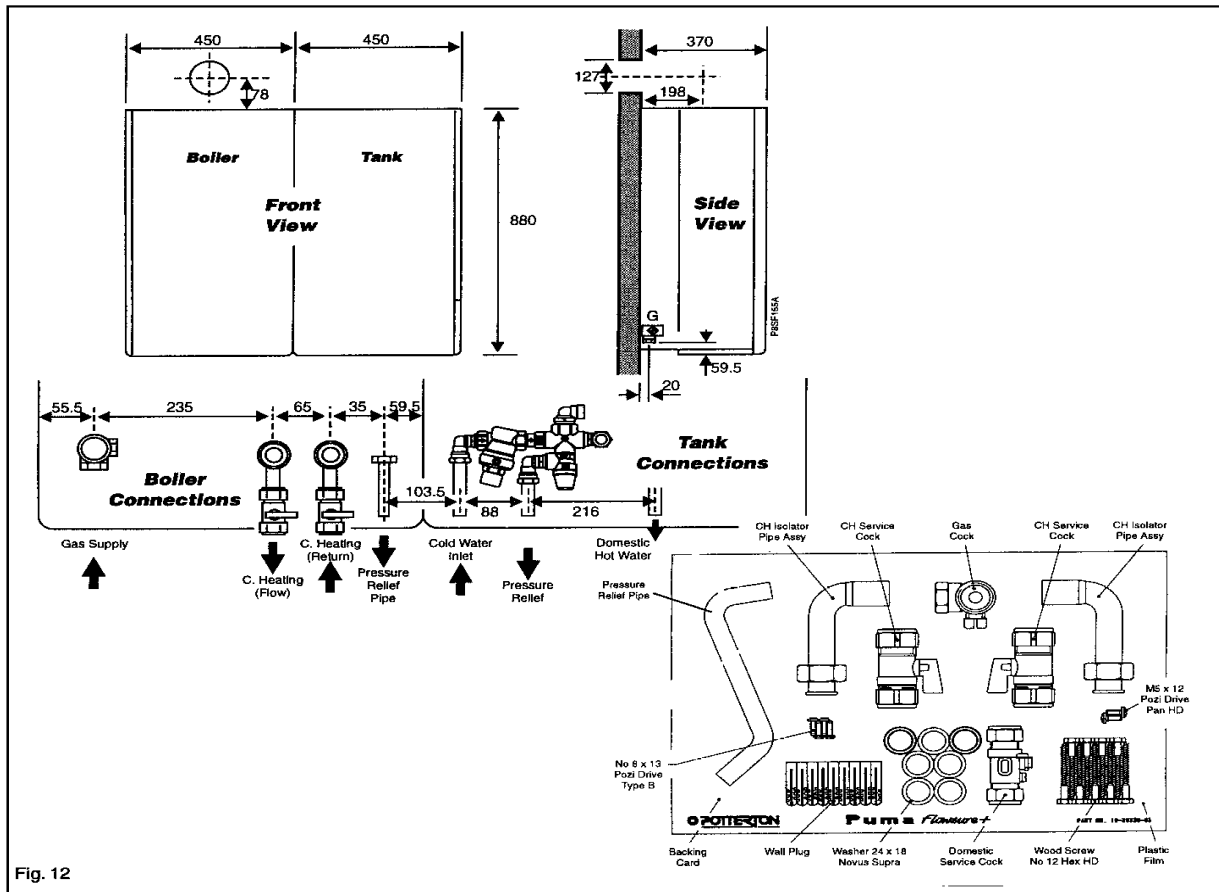

Fig. 12
- e) **Connections:** All connections for the boiler & tank are supplied on the Fittings Card or in the box containing the water inlet controls assembly. Remove the fittings for the boiler and assemble to the appliance. See Fig. 12.